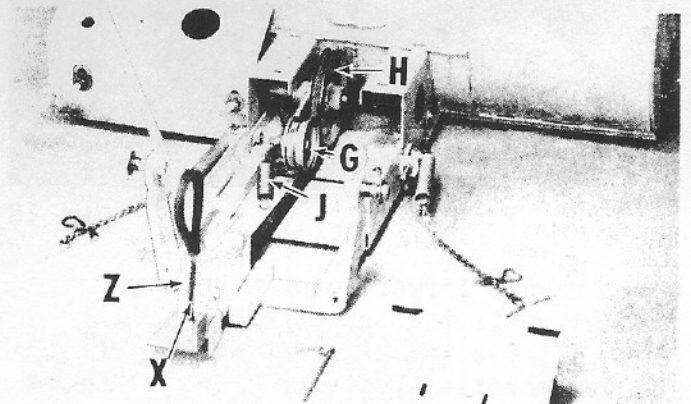

Fig. 12
Thread V-belt under idler pulley (G) as shown and on each side of idler pulley (H) (Fig. 12).
Attach lift spring (J) to idler (G) and idler pulley retainer arm as illustrated (Fig. 12).